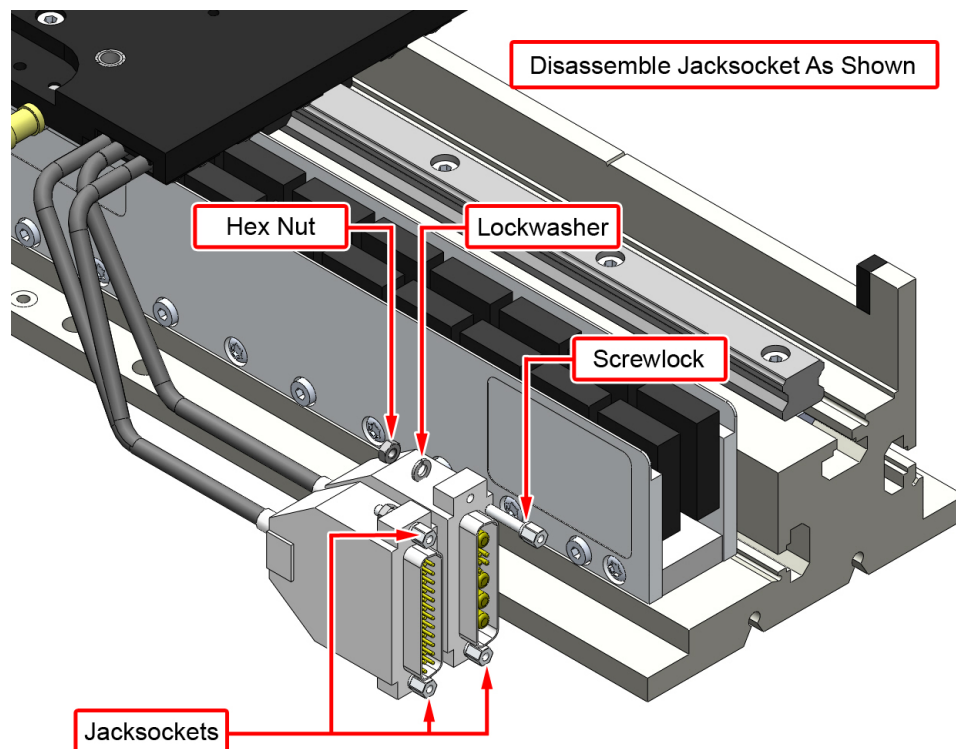

Figure 2-3: Bulkhead Bracket Installation — Jacksocket Disassembly
1. Disassemble the jacksockets from the linear motor actuator's motor power and feedback connectors (refer to Figure 2-3). These jacksockets can be discarded after removal.